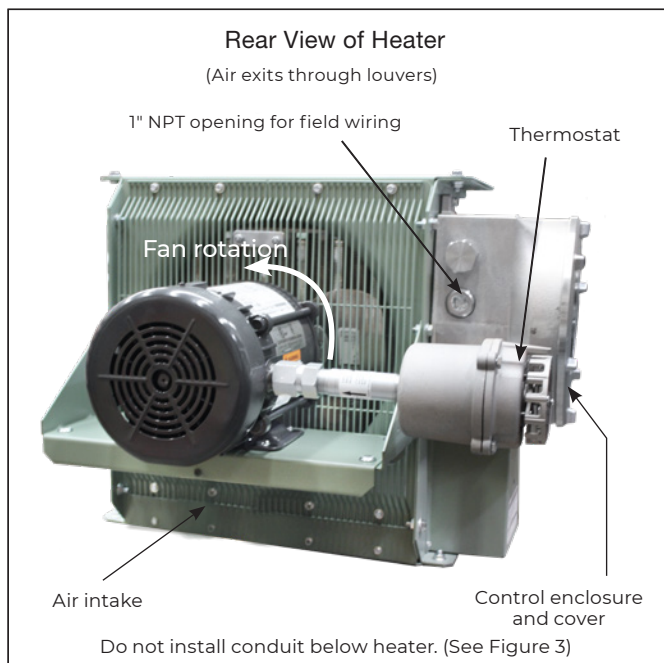
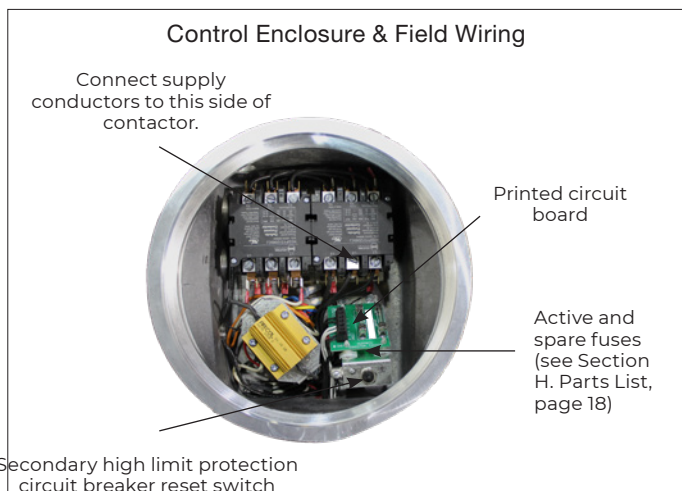

Figure 6
Figure 7
- 2.1 The supply conductors, ground conductor, and room thermostat conductors (see D.3 Wiring Schematics, page 11) all pass through the 1" NPT opening (see Figure 6, page 9) and are to be wired into the control enclosure (see Figure 7, page 9).
- Ensure that the fan rotates freely. See Figure 6, page 9 for proper direction of fan rotation.